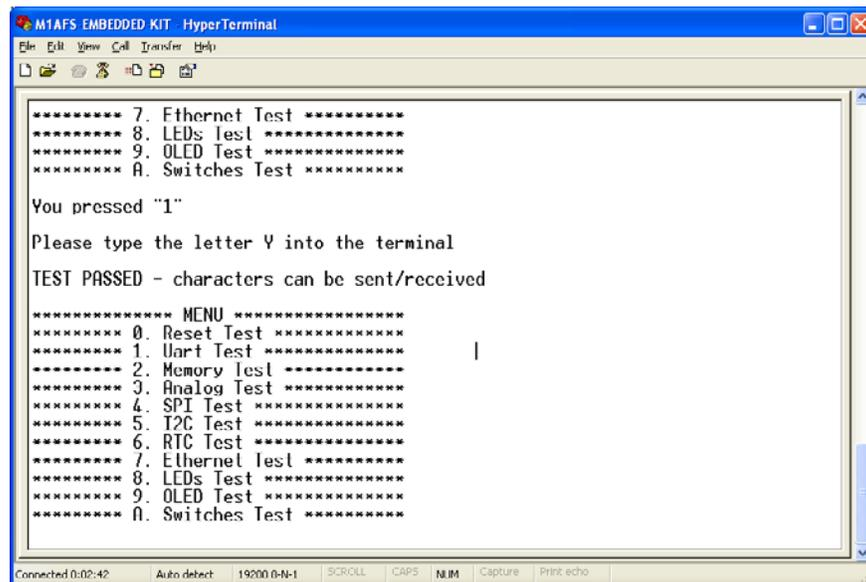

Figure 2-3 · UART Test Results
- Enter '1' into the terminal to begin the UART test. Type the character 'Y' into the terminal. If successful, the test results appear on the screen (Figure 2-3).